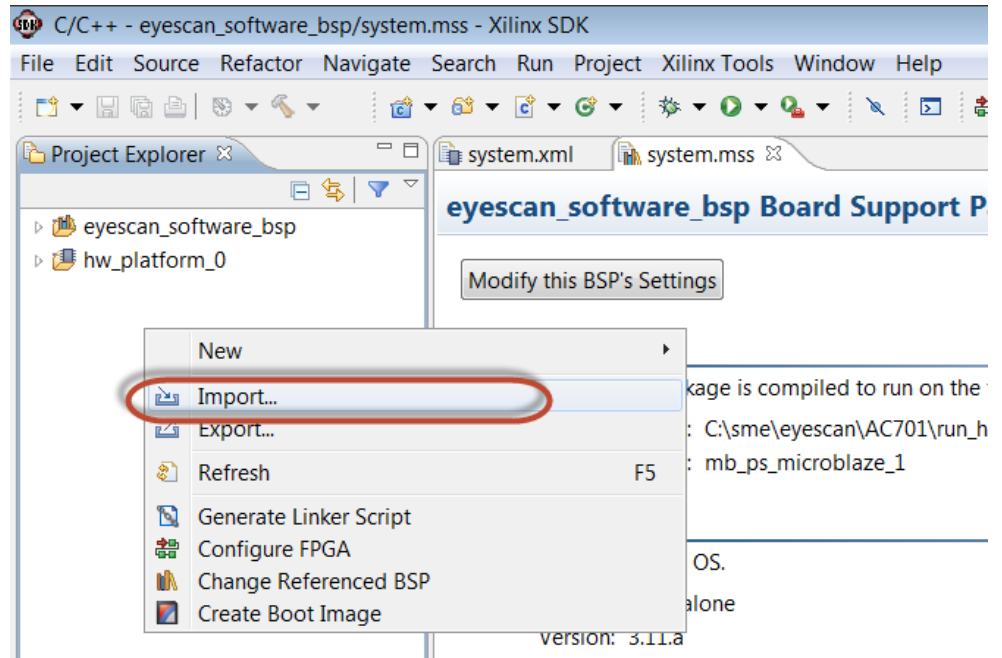

Figure 15: Importing Eye Scan Software Step 1
8. Right-click in the **Project Explorer** panel and select **Import** as shown in Figure 15.